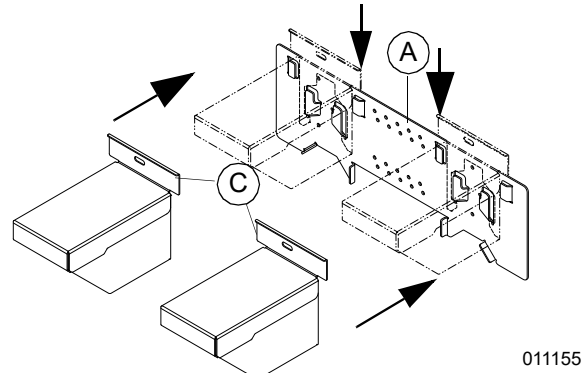

Figure 4-4. Insert Stands Onto Foot Bracket
4. See Figure 4-4. Slide foot stands (C) onto foot bracket (A) making sure underside of pockets clear bottom bracket before engagement. Proper installa-